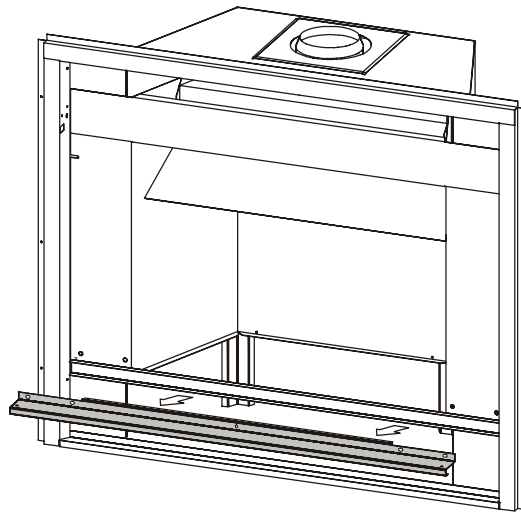

Figure 7. Removing the front bar.
3. Remove the four screws holding the front bar in place. See figure 7.